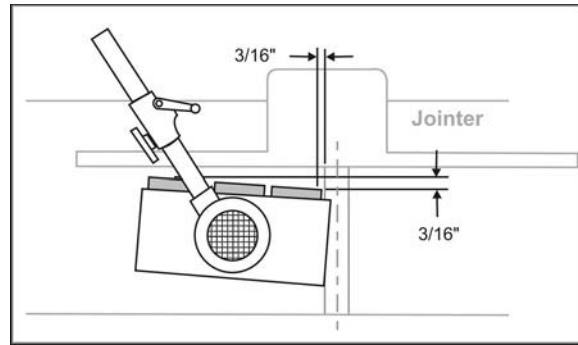

Figure 22
- Some woodworkers prefer to place the feeder so that all rollers are over the outfeed table, as shown in Figure 22. The infeed roller should be approximately 3/16" away from the lip of the outfeed table at the cutterhead area.